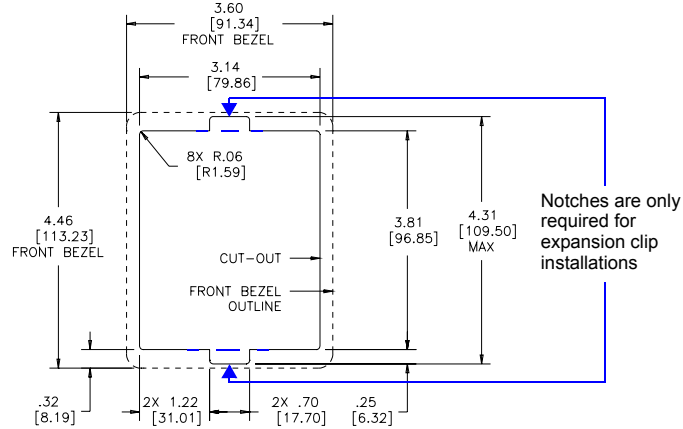

FIG. 3 Mio Modero DMS Cutout Installation Dimensions
FIG. 3 shows the mounting dimensions for the Mio Modero DMS. Reference these measurements when planning and installing the device. Consult the *Mio Modero DMS & Mio Modero DMS Pinnacle* instruction manual for the rough-in and no tab installation methods.
2. Cut out the surface for the Mio Modero DMS conduit box using the dimensions shown in FIG. 3. A template is included to help you determine dimensions.